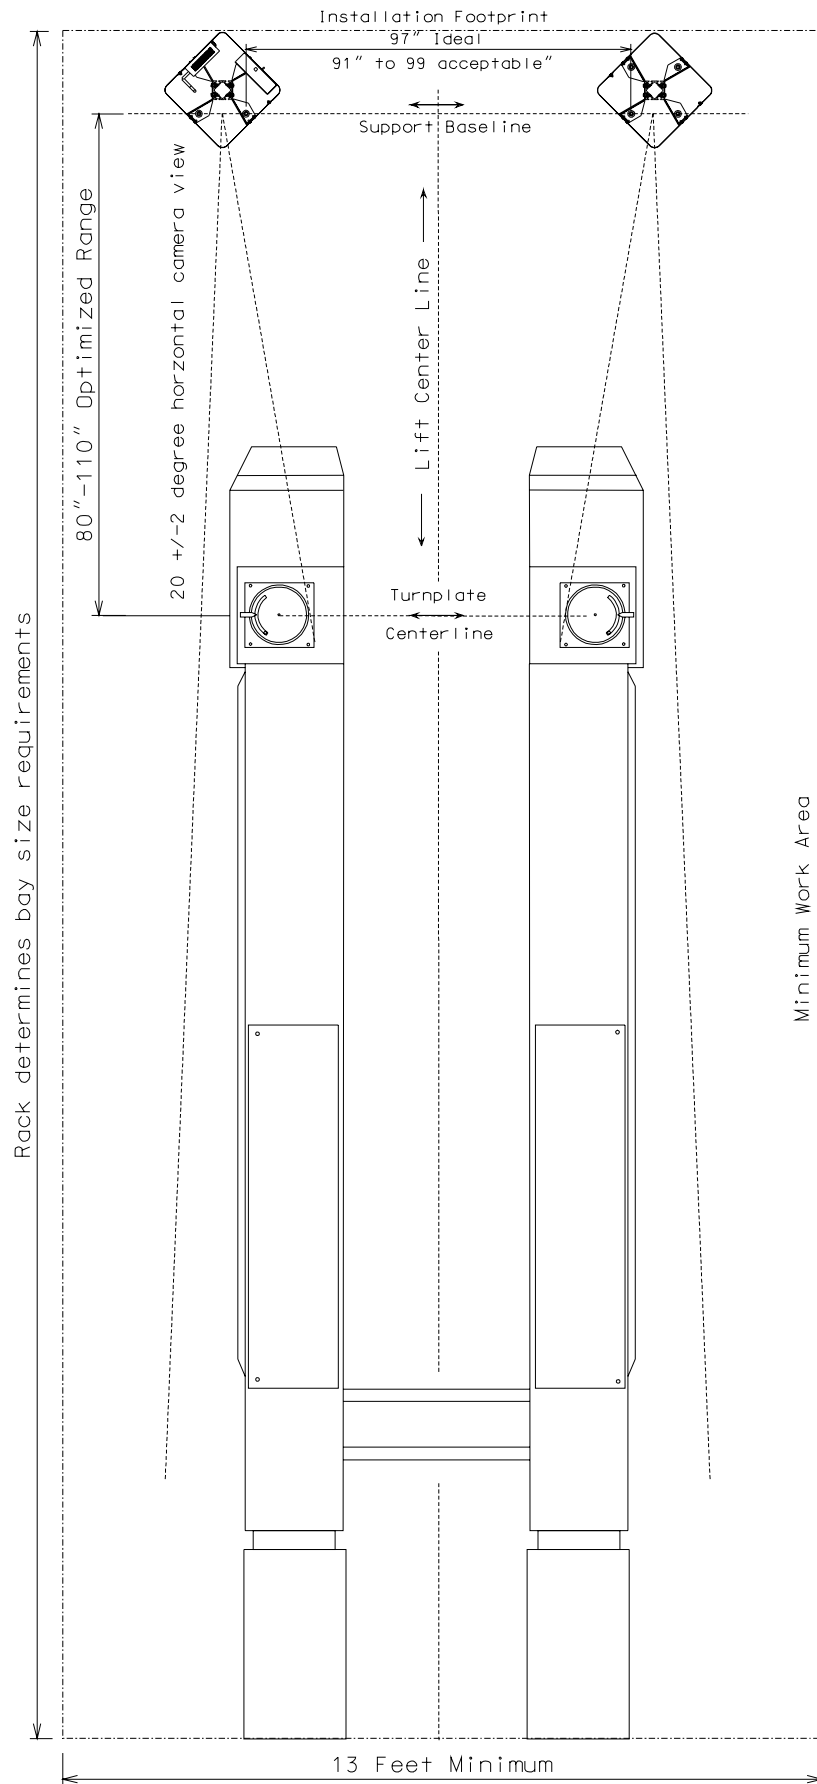

Figure 5
Verify site requirements per JBC Pre-Installation Form 5705. The Pre-Installation checklist was created primarily with sales personnel in mind, however it can be used as tool to verify bay conformance to requirements. Below are some key issues to consider for a successful installation. See Figure 5 on page 11 for a typical bay layout.
1. Determine the **Lift Centerline**. Measure between runways front and rear and mark midpoints on both. A mark can be made forward of the lift by placing one end of a string at a spot on one side of the lift, placing a marker on the other end of a string, and scribing an arc forward of the lift across the centerline. Repeat scribing an arc from the same spot on the other side of the lift. The intersection of the two arcs is the lift centerline. Use a chalk line to snap a centerline between the marks, and project out at least 114 inches in front of the rack, or to the shop wall if closer. See *Figure 5*.
2. Determine the **Turntable Centerline** by raising the lift to the predetermined alignment height (step 1). Use a plumb-bob from the center of the turntable and mark a spot on the floor next to each turntable. Snap a chalk line through the marks to establish the centerline. Use the plumb bob on the outside of the turntables to mark a center spot on the floor on the outside of each runway (See *Figure 5*).
4. Determine the **Support Baseline**. The Arago 3™ camera supports must be installed a minimum of 80 inches (2032 mm), and no greater than 110 inches (2794 mm) from the center of the turntables to the **face** of the cameras. The face of the camera can be considered to be in the same plane as the front two holes of the support base. The support base will be used as a point to place the baseline. Measure 80" – 110" (or whatever the space will allow within the above parameters) from the turntable centerline forward at two locations and mark these points. Snap a chalk line on the floor through these two points. This is the **installation baseline** (See *Figure 5*).
3. Position base/column assemblies onto floor centered on baseline measurements made earlier. See Figure 7. Base Plates will generally be 97 inches apart as measured between the inner holes. Refer to Figure 5 on page 11 for layout detail. Using a marker, mark the hole locations for the 4 mounting bolts with each plate.